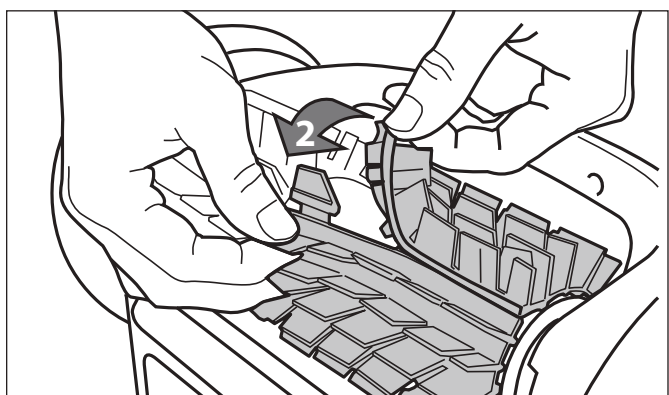

Figure 31. Undo the Tabs of the Brush
2. Separate the edges of the brush and undo the tabs as shown in Figure 31. Remove the worn brushes.